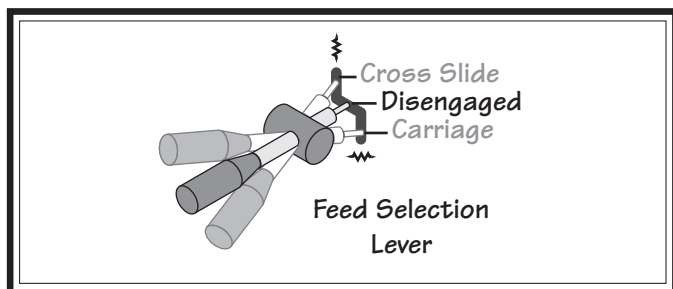

Figure 67. Feed selection lever positions.
E. Feed Selection Lever: Engages the power feed for either the cross slide or the carriage (see **Figure 67**).